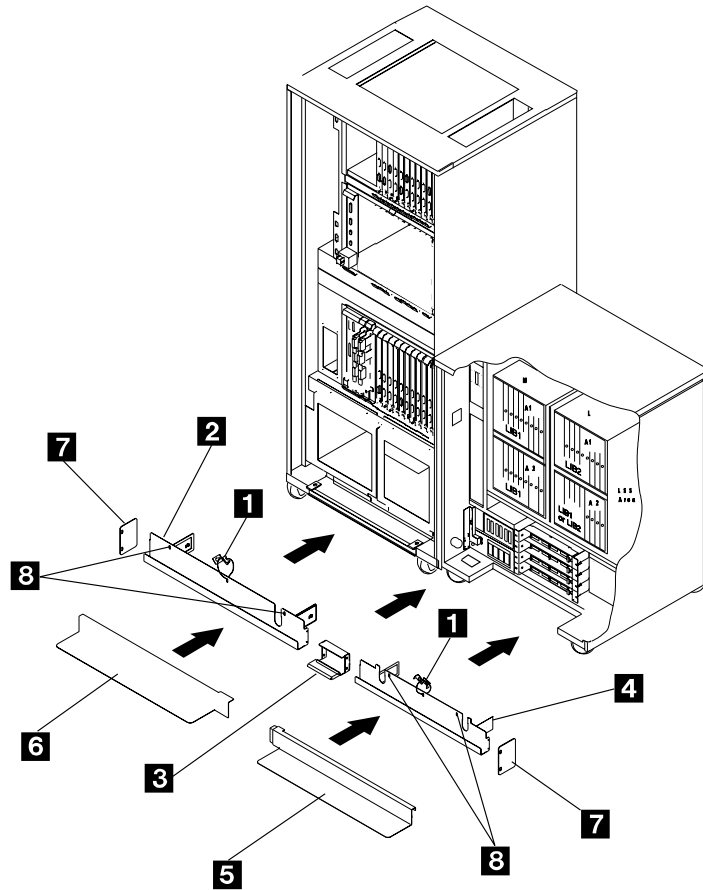

Figure 10-1. 3746-900 and 3745 17A Ground Brackets (Rear View)
All the following procedures can be used to install the ground plates when the 3746-900 is installed on the other side of the 3745 (refer to Figure 10-1 on page 10-3).
- Step 1. \_\_\_\_ Remove brackets **1** from the ground plates **2** and **4** (PN 58G5307 and PN 58G5306). Refer to Figure 10-1 on page 10-3.